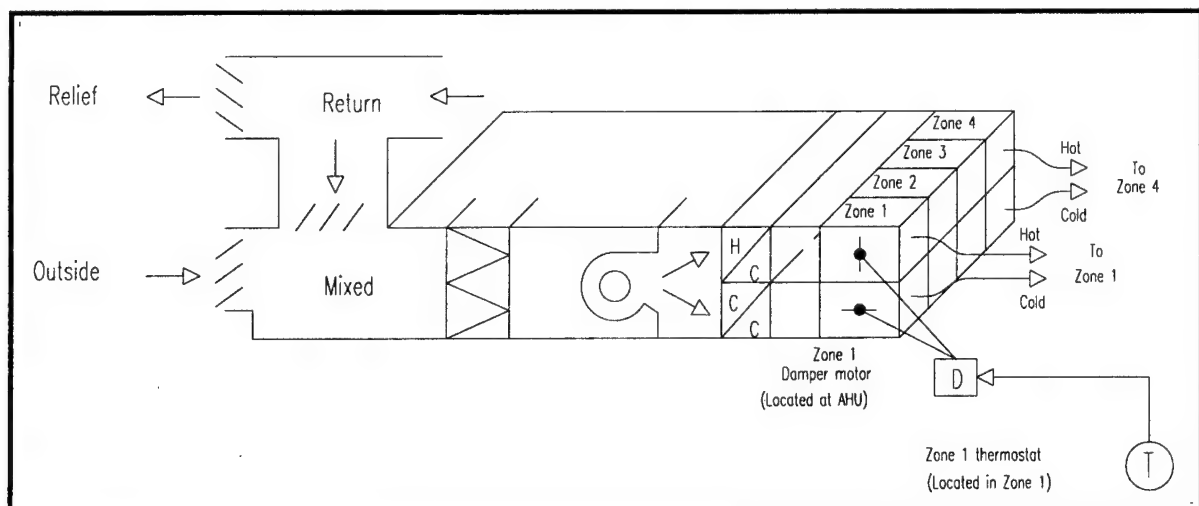

Figure 10. Multizone air handler.
The Multizone (MZ) system is one of the most O&M friendly HVAC systems because all of the mechanical equipment is located at the air handler (in the mechanical room). As shown in Figures 10 and 11, the air handler contains a heat-